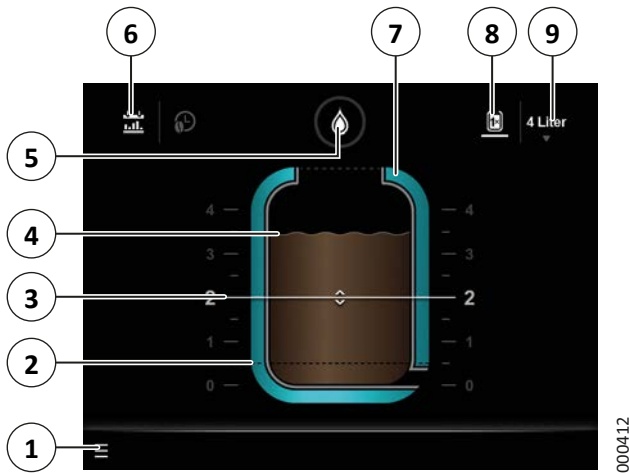

Fig. 9: Managing the coffee supply
- Slide the target supply bar (3) (see Fig. 9).
With the calendar symbol (6) (see Fig. 9) you can activate or deactivate the administration of the target supply via the weekly planner:
1. By using the menu (9) (see Fig. 9) select the desired period in which the coffee supply should be topped up continuously.
2. Start the manual brewing with the button "Brewing" (8) (see Fig. 9).